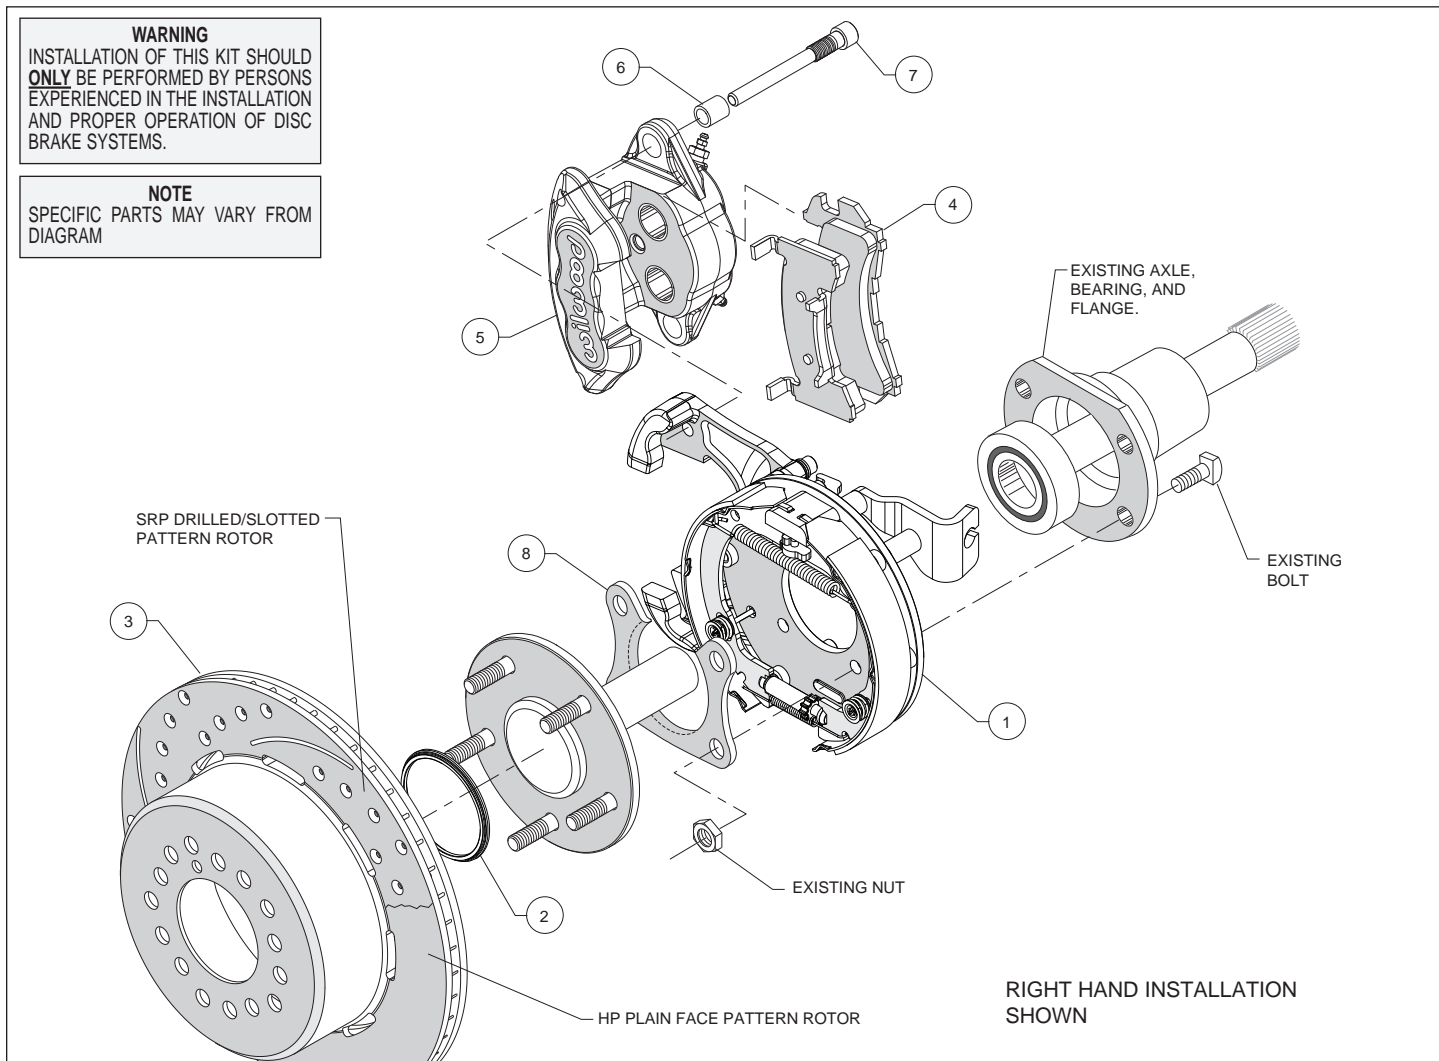

Figure 1. Typical Installation Configuration
**Assembly Instructions** (numbers in parenthesis refer to the parts list, and Figure 1 on the preceding pages): **CAUTION:** All mounting bolts must fully engage threaded holes.
- Orient the bracket assembly (1) as shown in Figure 1 and Photo 1 and slide it onto the axle. Insert the axle and bracket into the axle housing. Ensure that the bracket assembly backing plate fits flush against the axle housing flange.
- Install the bearing retainer (8) with the opening pointing upward and the lip facing inward (toward the bearing), as shown in Figures 1 and 4, and Photo 2. Secure retainer and bracket assembly to the axle housing flange using the Original Equipment Manufacturer (OEM) bolts and nuts, Figure 1. Apply red *Loctite*® 271 to the OEM bolt threads and torque to OEM specifications.
- Slide the rotor registration adapter (2) onto the axle register on the axle flange with the smaller O.D. facing toward the rotor/hat (3), Photo 3. Align the correct hole pattern in the rotor/hat with the stud pattern on the axle flange and slide into place, Figure 1 and Photo 4. **NOTE:** The rotor/hat must fit flush against the axle flange or excessive rotor run out may result. Install three lug nuts (finger tight) to keep the rotor/hat assembly in place while continuing with the installation. **NOTE:** Some OEM and after market axles come with stud sizes larger than 0.50" diameter. Verify stud size and have a qualified machine shop drill the bolt circle of the hat/rotor to the correct stud size, if necessary.
- Install the disc brake pads (4) into the caliper (5) with the friction material facing the rotor, as shown in Figure 1 and Photo 5.
- Install sleeves (6) onto slide pin bolts (7). Apply white lithium grease (available from your local auto parts store) to the slide pins/sleeves, as shown in Photo 6. **Do not apply to threads.** Mount the caliper (5) onto the mounting bracket (1) using slide pin bolts, as shown in Figure 1. Torque to 35 ft-lbs.
• **NOTE:** Clevis and cable kits which attach to the parking brake assembly are not included in the Wilwood parking brake kit. Wilwood offers a generic style parking brake cable kit, P/N 330-9371 for this application which can be ordered separately from your local Wilwood dealer or by calling Wilwood customer service at (805) 388-1188.